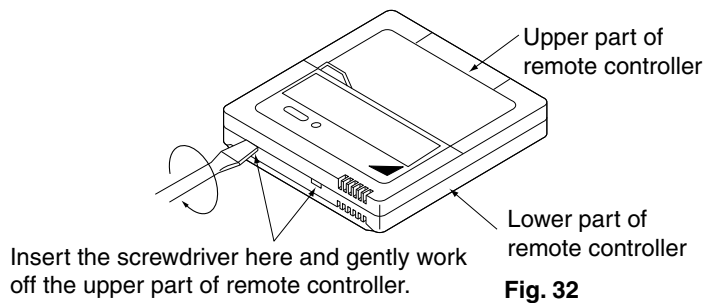

Fig. 32
- (1) Insert a ⊖ screwdriver into the recess between the upper and lower part of remote controller and, working from the 2 positions, pry off the upper part. (The remote controller PC board is attached to the upper part of remote controller.) **(Refer to Fig. 32)**